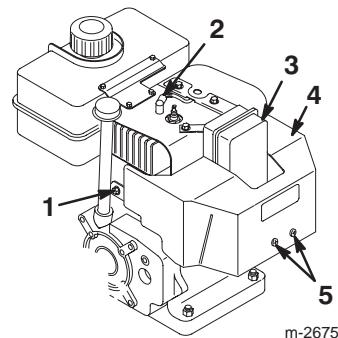

Figure 18
If you operate the engine when the air temperature is above 40°F (4°C), remove the carburetor heater box (Fig. 18).
1. Disconnect the wire from the spark plug and ensure that the wire does not contact the plug (Fig. 18).
4. Remove 2 screws, 2 bolts, and one lock washer that secure the carburetor heater box (Fig. 18).